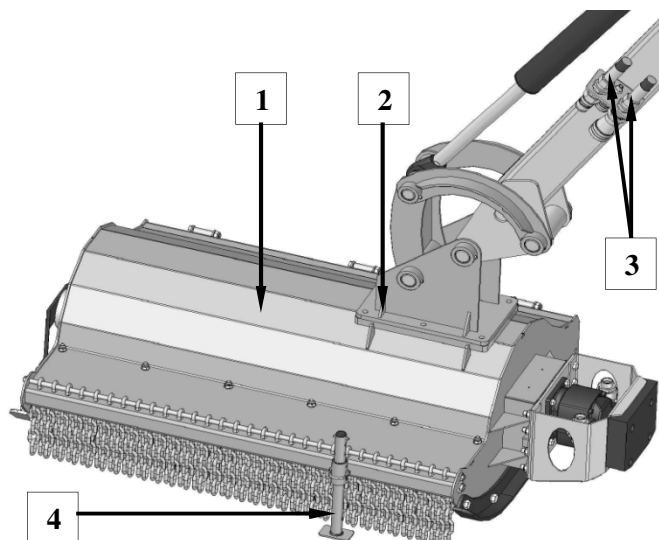

Fig. 47. Mounting flail head with use of multi-purpose linkage
- ❑ Mounting flail head on extension arm is performed with use of multi-purpose linkage with mounting catch (2) (Fig. 47).
- ❑ Prepare flail head (1), which first should be dismounted – using support foot (4) set the head parallel to the ground.
- ❑ Screw bolts in mounting catch (2) and connect quick fasteners (3). For Lama 120 P head, connect 2 cables for rotation control of the moving part of ejector directly to push-in fittings of tractor's hydraulics.
In order to dismount flail head take analogical steps, that is place machine on even ground and disconnect tractor's engine. Then unscrew bolts in mounting catch (2) and disconnect quick fasteners (3) (Fig. 47).